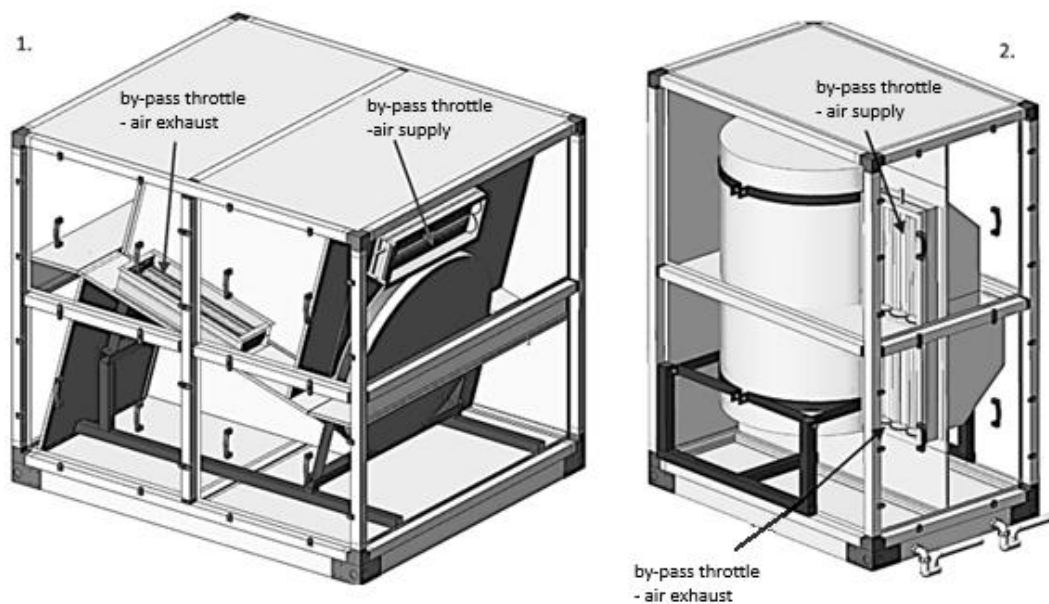

Fig. 25 The by-pass throttle arrangement (1-variant WS-C; 2-variant WS-G)
- **Integrated double by-pass independent for exhaust and supply air without cutting off the airflow through the exchanger (Fig.25)**